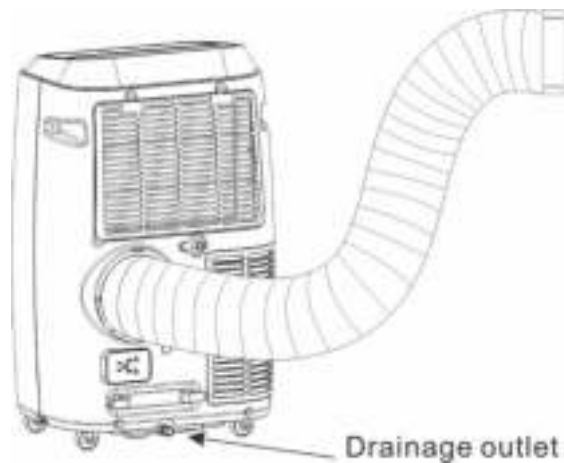

Fig.6
- 3) As shown in Fig. 6, connect drain hose well (only for using heating model) ;
- If water splash motor is damaged, continuous drainage can be used. To connect the drain hose to the bottom drainage outlet (Fig.6), the unit can also work well.